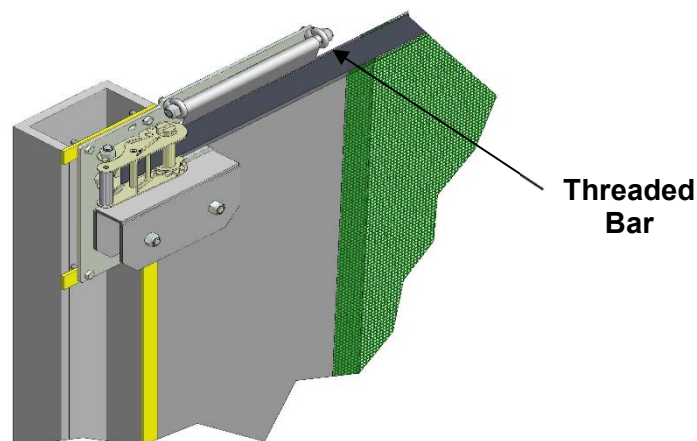

Figure 16
5.3 Operate the Electric Drive to fully lift the Panel (the Green Cam may have to be adjusted to achieve this). Following the principles detailed in section 5.2 fasten upper webbing strap into Ratchets on Top Plates and tension (Figure 16). Ensuring the Panel is central; **fully tension** the ratchets by hand until it is impossible to operate further. If the Panel material is being drawn into Ratchet, Section 5.4 details how to trim the fabric, once the adjustments have been made continue tensioning.
Feed the M12 x 300 threaded bar on the Top Plates though the 40mm pocket (Figure 16), the pocket may have to be trimmed to fit.